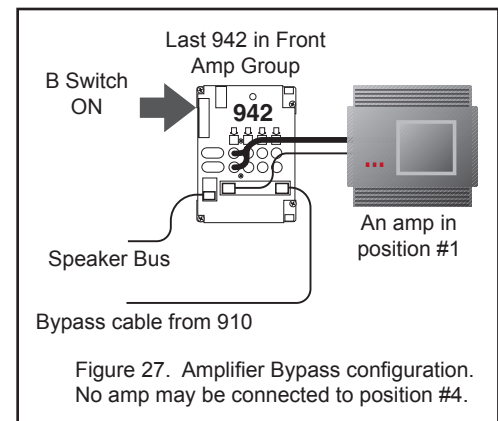

Figure 27. Amplifier Bypass configuration. No amp may be connected to position #4.
2. Connect one end of the Front High-Level Bus to the fourth position on the last 942 module in the Front Amplifier product group (see Figure 27). Turn on the "B" switch to activate bypass on *that module*.